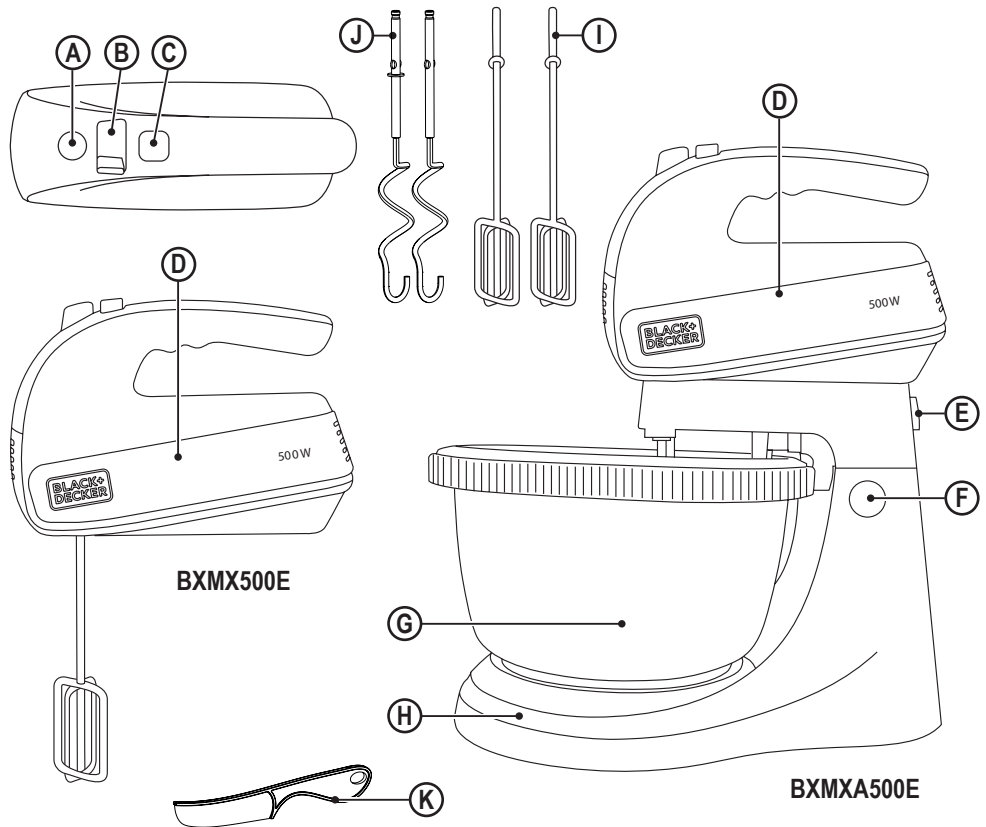

Fig.1
- ♦ Place the accessory (I, J) you want to use to motor body accordingly. (Fig.1).
- ♦ Turn the appliance on, by using the speed selector control (B).